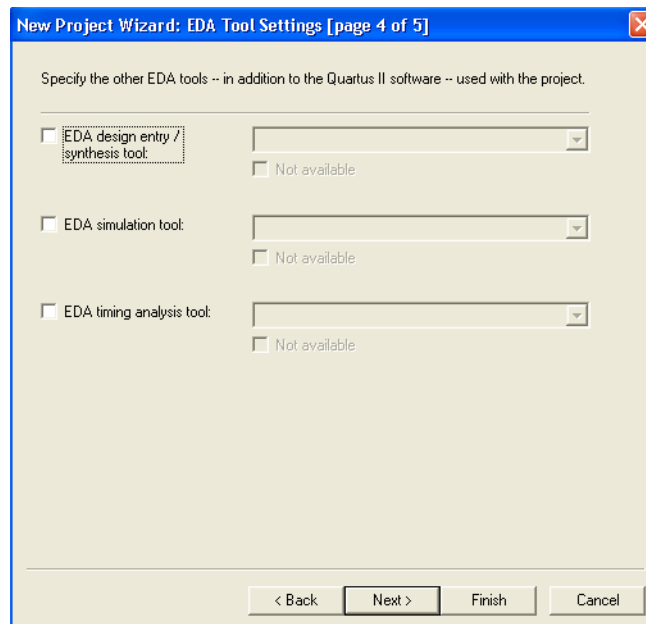

Figure 8: Other EDA tools can be specified.
4. In this window, we can specify the type of device in which the designed circuit will be implemented. Choose the Stratix® menu item as the target device family. We can let the Quartus II software select a specific device in the family, or we can choose the device explicitly. We will take the latter approach. From the list of available devices, choose the device called EP1S10F484C5. Press Next, which opens the window in Figure 8.